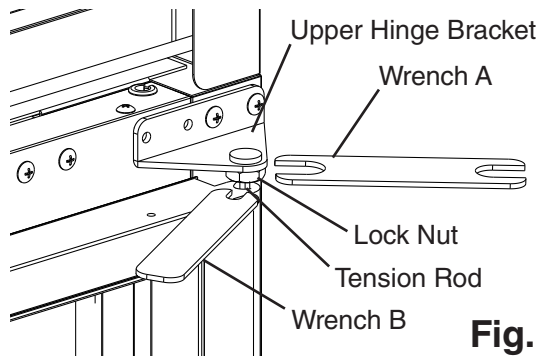

**Fig. 32**
- 3) At the upper hinge bracket, place wrench B on the tension rod and hold (prepare for tension pressure), then using wrench A, loosen the lock nut. See Fig. 32.